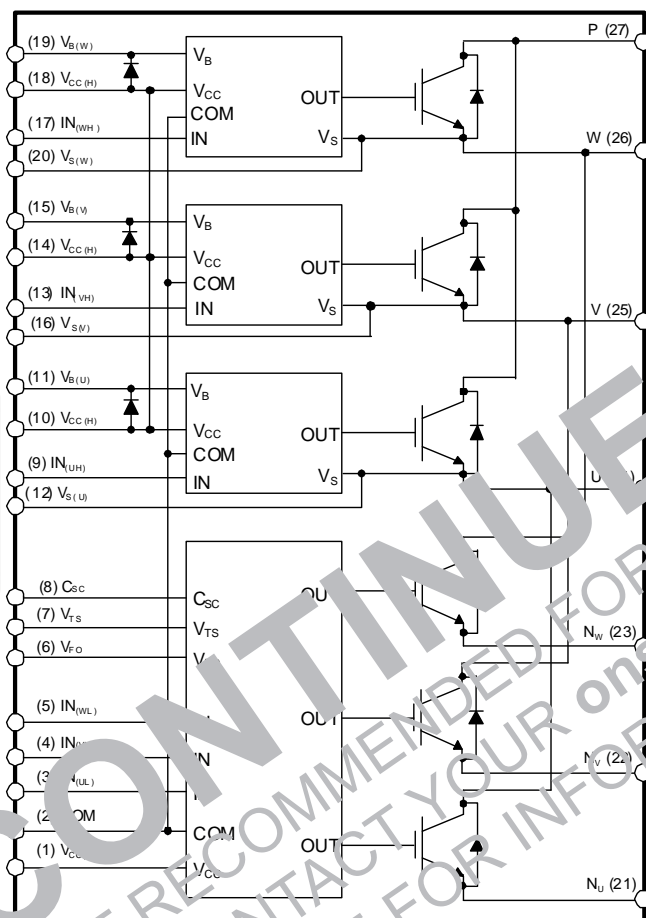

Figure 3. Internal Block Diagram
- 600 V - 20 A IGBT inverter for three-phase DC / AC power conversion (Please refer to Figure 3)